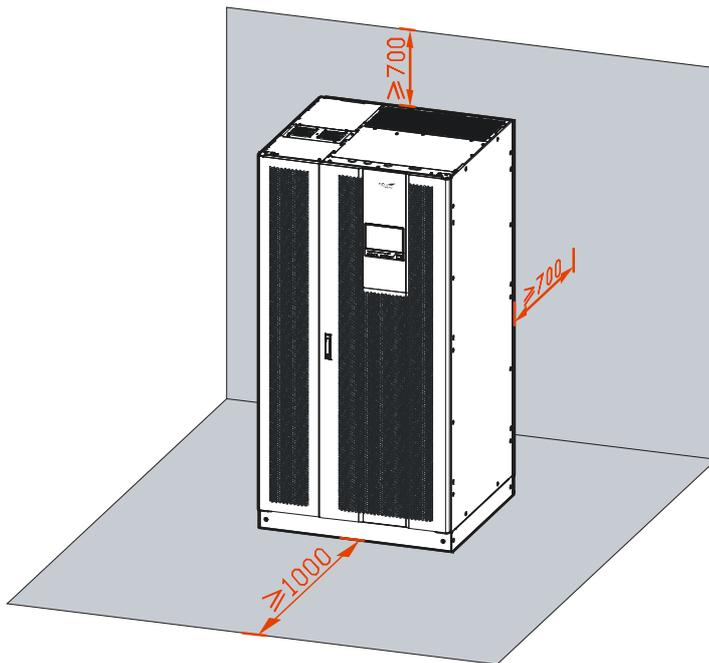

Figure3-2 Installation space
- Keep at least 1000mm from the front panel of the UPS to the wall or adjacent device, keep at least 700mm from the rear panel of the UPS to the wall or adjacent device for heat dissipation and maintenance. The minimum installation space of the UPS is as shown in Figure3-2. If allowable, it is suggested to keep larger space to ensure the UPS working stably and efficiently.
- When the UPS is used in parallel system, the whole space after paralleled should meet the space requirement in Figure3-2.